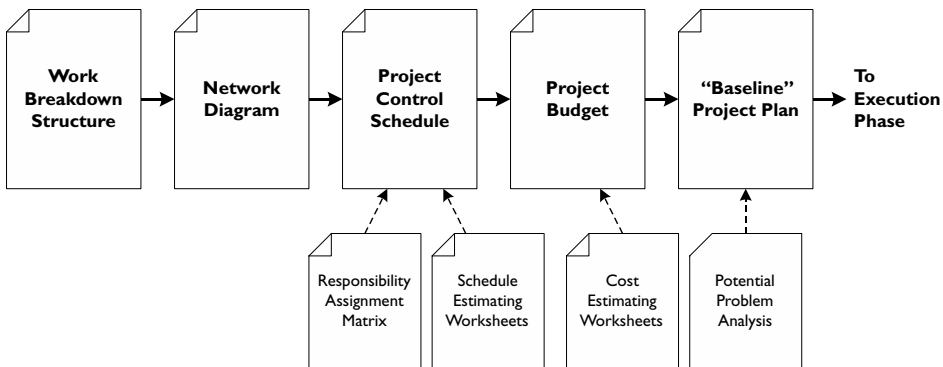

Figure 11-4. Key documents in the project planning process
Figure 11-4 illustrates the key documents that should be created as part of the planning process.
**“Baseline” Project Plan.** As mentioned many times before, the project plan is more than just a schedule. The baseline project plan, in fact, includes all of the other documents shown in Figure 11-4. In this figure, the baseline project plan appears to lead directly into execution. Although this is true from a document flow perspective, the reality is that many organizations require formal management approval before proceeding to project execution. This formal approval is what